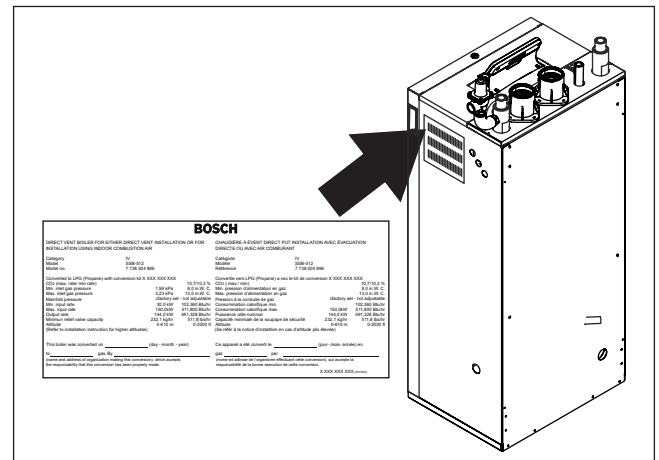

Fig. 24 Affixing the gas type label
- ▶ Affix the gas type label from the gas conversion kit to the appliance (Fig. 24).